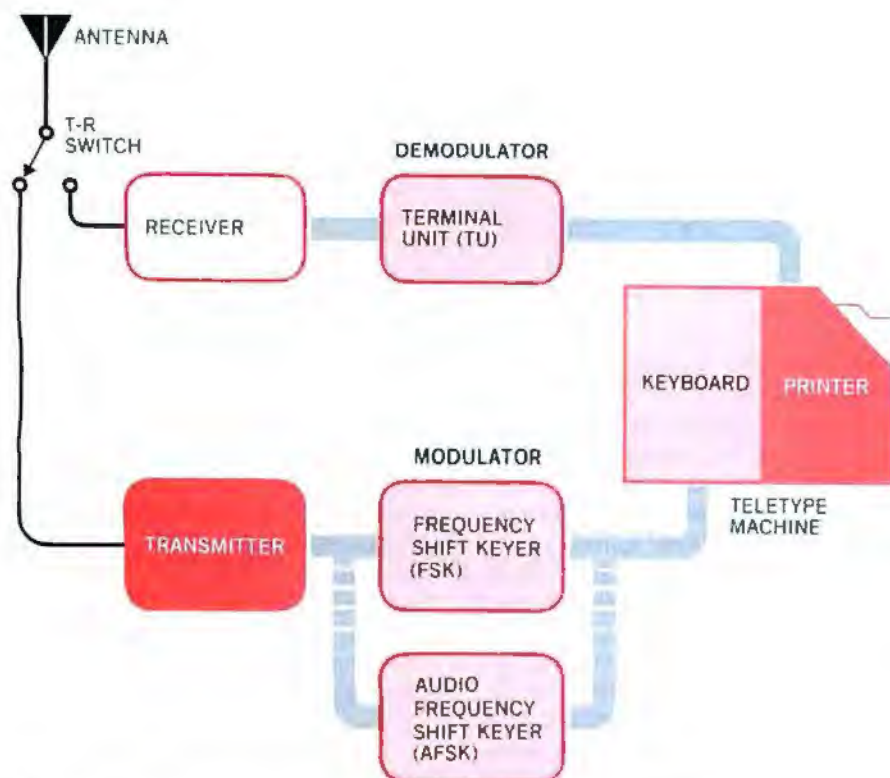

Fig. 2. Block diagram of the equipment in a complete RTTY station.
**The Equipment.** A complete station for transmitting and receiving radioteletype signals is shown in Fig. 2. The transmitter and receiver are of conventional "communication" design. The teletypewriter is a combination keyboard/printer. On transmit, the keyboard drives a keyer that, in turn, modulates the transmitter. On receive, signals are coupled from the communication receiver